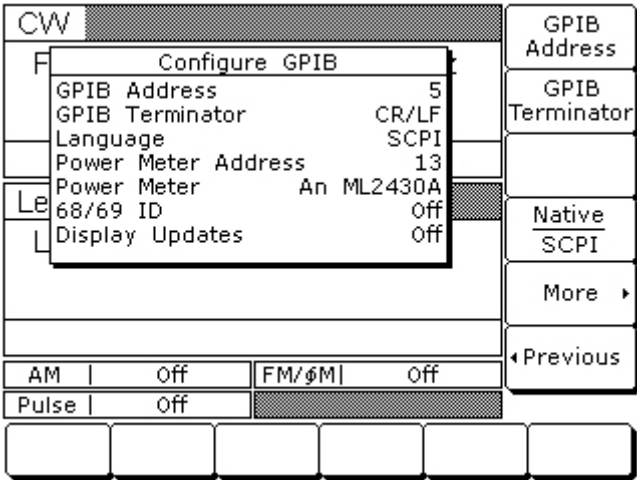

Figure 1-4. GPIB Configuration Menu
- The Configure GPIB menu (Figure 1-4) is displayed.